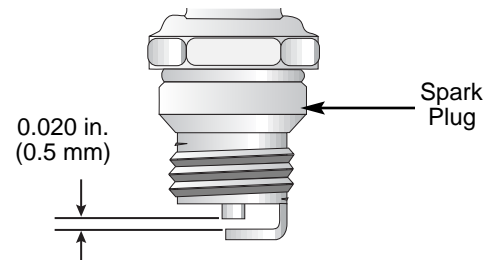

Fig. 23
3. Replace a cracked, fouled or dirty spark plug. Set the air gap at 0.020 in. (0.5 mm) using a feeler gauge (Fig. 23).